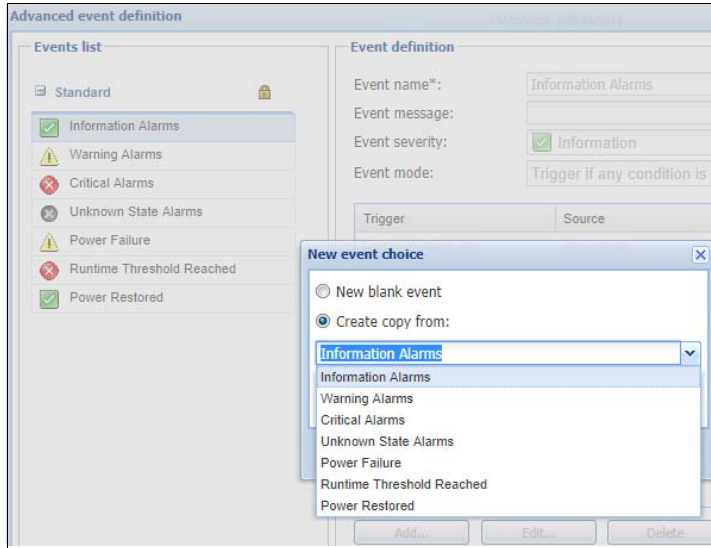

Figure 38 Create custom event
1. In the **Advanced event definition** dialog box, click the **Add** button. The New event choice dialog appears, Figure 38.
2. Select a new blank event or select from a standard event as a template from the drop-down list under **Create copy from** as shown in Figure 38.